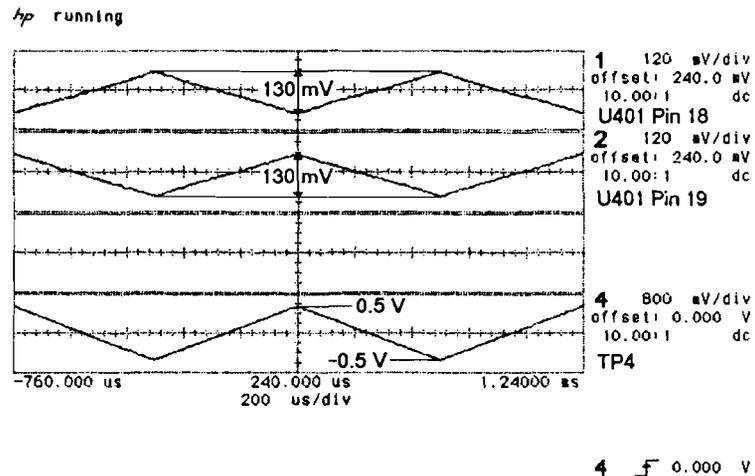

Figure 10.4-6. Shaper IC Input and Output (Sine/Triangle)
2. Use an oscilloscope to check the signals at pins 18 and 19 of U401 and TP4 against Figure 10.4-6. Note that the signals on pins 18 and 19 are not necessarily symmetrical.